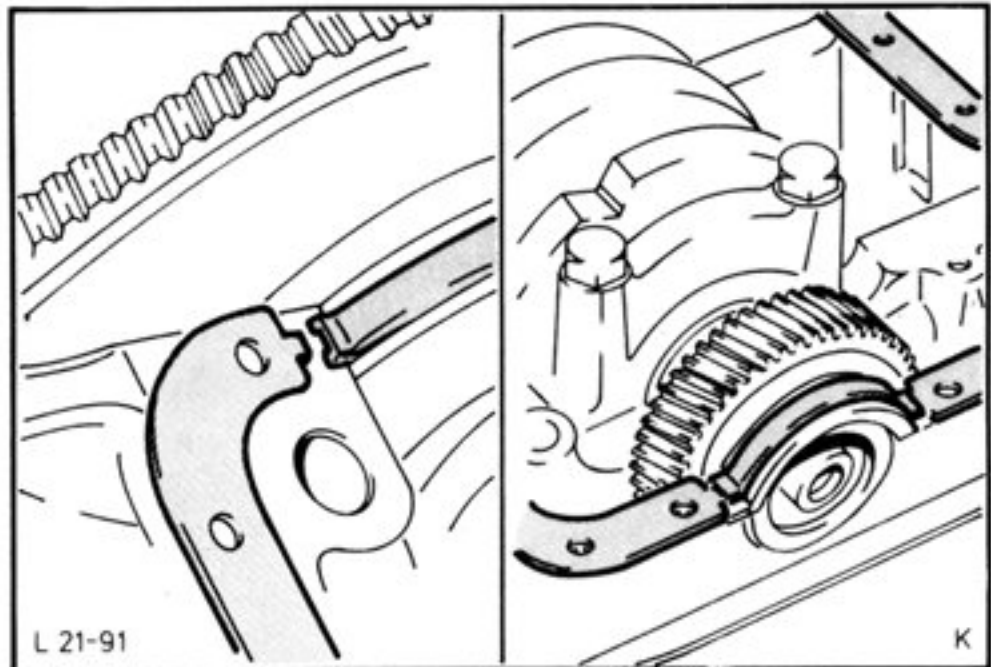

Fig.66. Fit sump gasket.
58. Insert rubber seal in groove of rear seal carrier. Apply sealing compound to cylinder block mating surface at joint of cover and rear seal carrier. Place sump gasket in position and slide projections on cork gasket under cut-outs in rubber gasket, Fig.66.